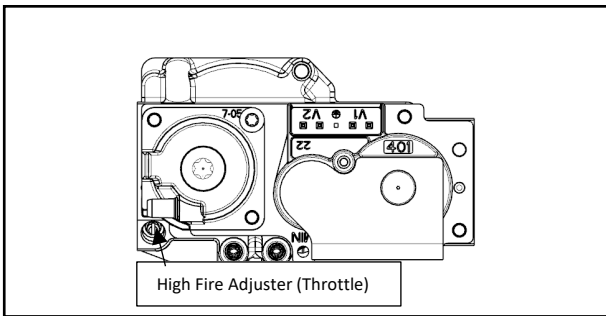

Fig .7
- Alter High Fire adjuster (throttle) (fig.7) in $\frac{1}{4}$ incremental steps until CO₂ is within specified tolerance (as per table 3).